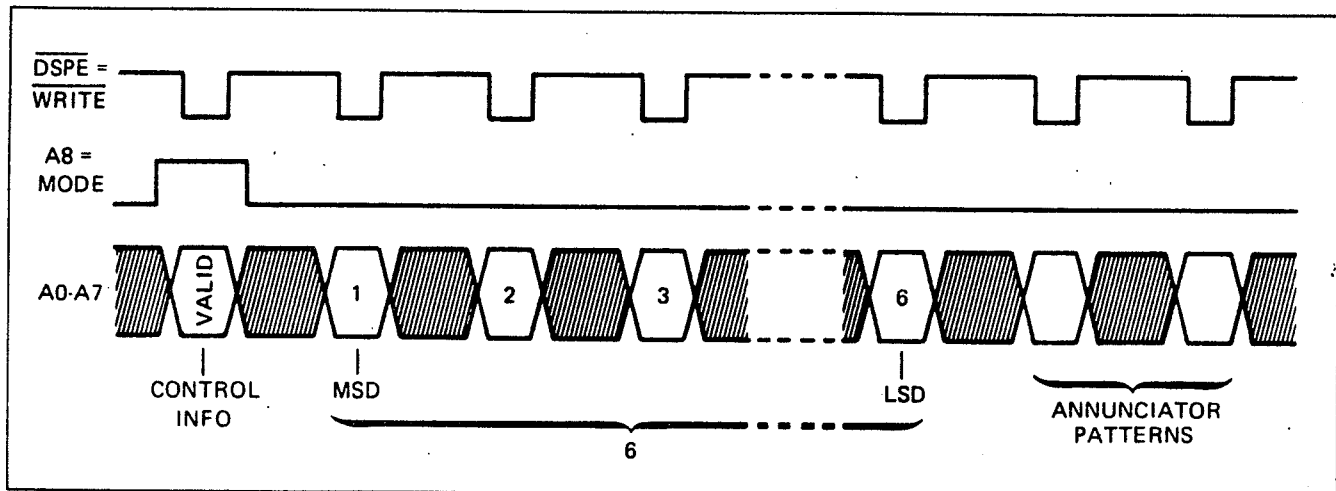

Figure 4.19 -  $\mu$ P Storage To LSI Display Controller Timing Signals
4.6.3.2 Whenever the  $\mu\text{P}$  wishes to update the LED pattern controlled by MB-U12, it latches a string of bytes into MB-U12 from the  $\mu\text{P}$ 's address bus. The first of these is a byte which notifies the display controller that 8 data bytes will follow. The display controller differentiates between status bytes and data bytes by sampling the A8 address line during each write cycle (U12-9), which is high during status bytes and low during data byte writes. See Figure 4.19 for a simplified timing diagram.